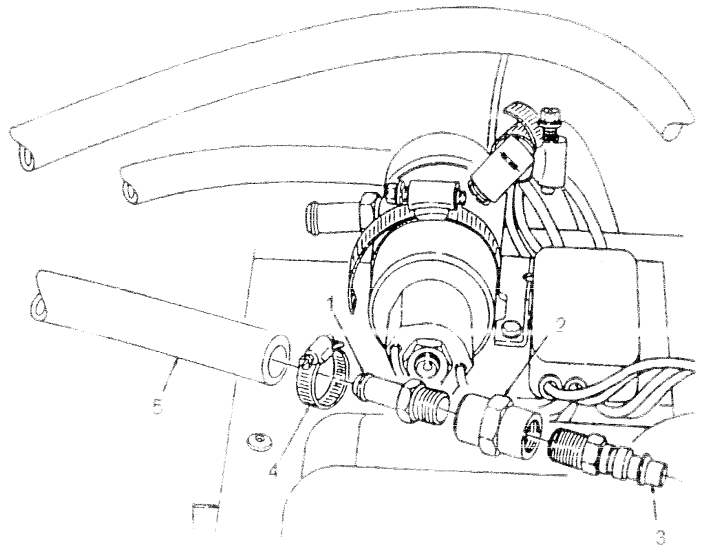

FIGURE 3-9
- B. Assemble NSN 4730-00-142-1958 quick disconnect (3), NSN 4730-00-223-9255 pipe coupling (2), and NSN 4730-01-242-7738 connector (1). (see figure 3-9)
- D. Install connector (1) to hose (5) and secure with clamp (4). (see figure 3-9)
- H. Loosen clamp)(4)and remove connector-(1)from hose(5).(see figure 3-9)